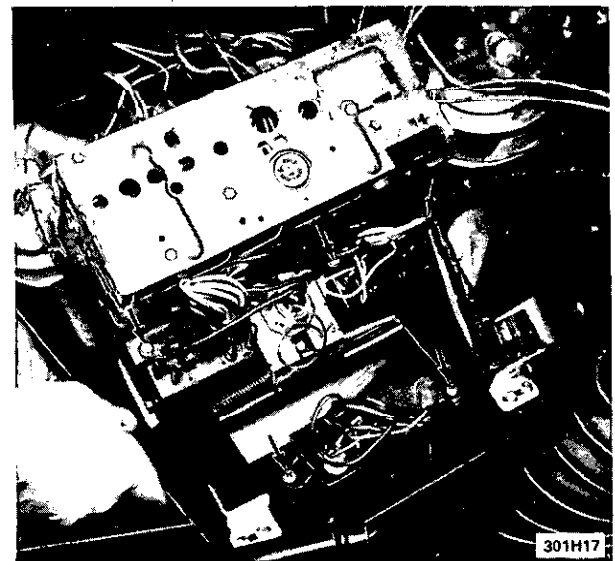

Figure 1H-17 Removing Switches
3. Remove switch by removing two retaining nuts. See Figure 1H-17.